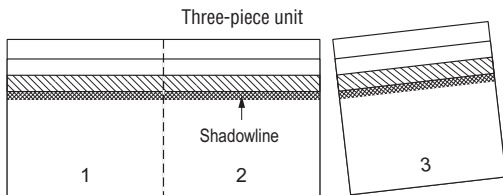

Figure 12-18: Separate to make 3 cap shingles.
2. Install caps beginning at the bottom of a hip or at either end of a ridge. Apply a starter piece that has the bottom 5" (5⁵/₈" for metric) removed (Figure 12-18). Fasten the starter with two nails located about 3" from the rake edge, and 1" in from each side edge. Make sure fasteners used to apply caps penetrate at least ³/₄" into or through the decking.
3. Apply a full cap shingle over the starter (Figure 12-18), and place fasteners at $5\frac{5}{8}$ " ($6\frac{1}{4}$ " for metric) up from the exposed bottom edge and 1" in from each side. Nails must not be exposed on the finished roof. All nail heads must be driven straight and must not cut into the shingle surface.
Use Cedar Crest accessory shingles to cover hips and ridges. Carefully separate the three-piece units prior to application, by first folding along the pre-cut lines and then detaching the pieces (see Fig. 12-18). No cutting is necessary. There are 30 individual shingles (10 three-piece units) in each bundle. One bundle will cover 20 linear feet. Each 12" x 12" shingle has a shadowline that is a design feature which is visible when applied properly. To prevent shingle damage during application, they must be sufficiently warm to allow proper forming.